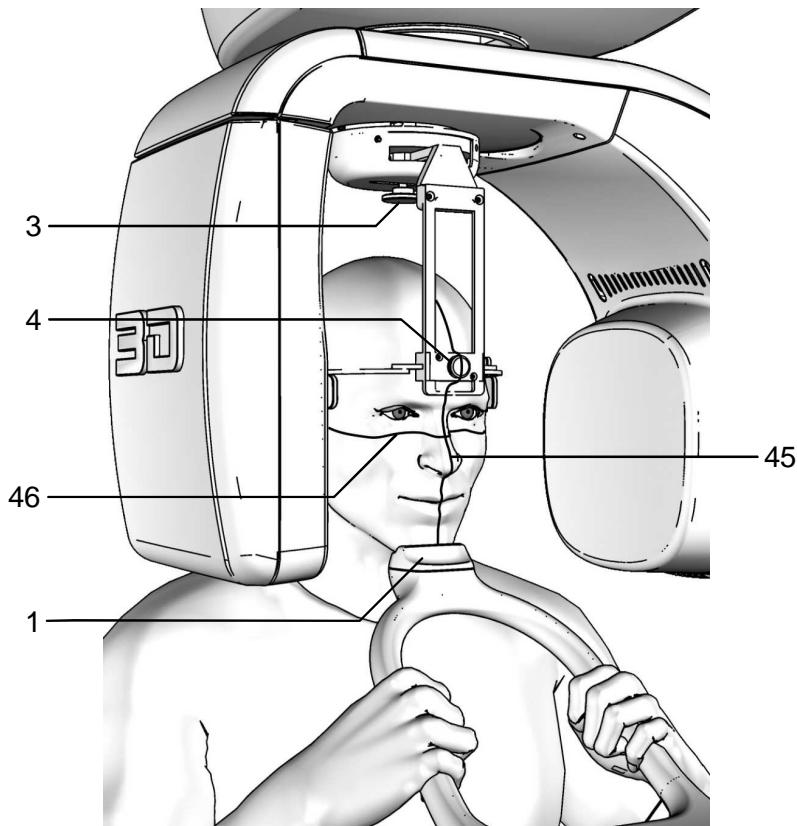

Figure 18 – SINUS positioning
4. Verify that the temple clamp device is in the central position (Figure 10), and if necessary move it using the appropriate control on the top of the support (Figure 18).
5. Place the patient in the temple clamp (Figure 18) by placing the chin on the surface of the relevant support; the hands should rest on the front handgrips. Ensure that the patient rests his chin on the chin support for SINUS.
8. Press the key "Centring devices ON" (14) .
9. Place the temple clamp in contact with the patient's head by means of the appropriate knob (Figure 18).
11. Press the key "Patient Entrance" (7)  to confirm the